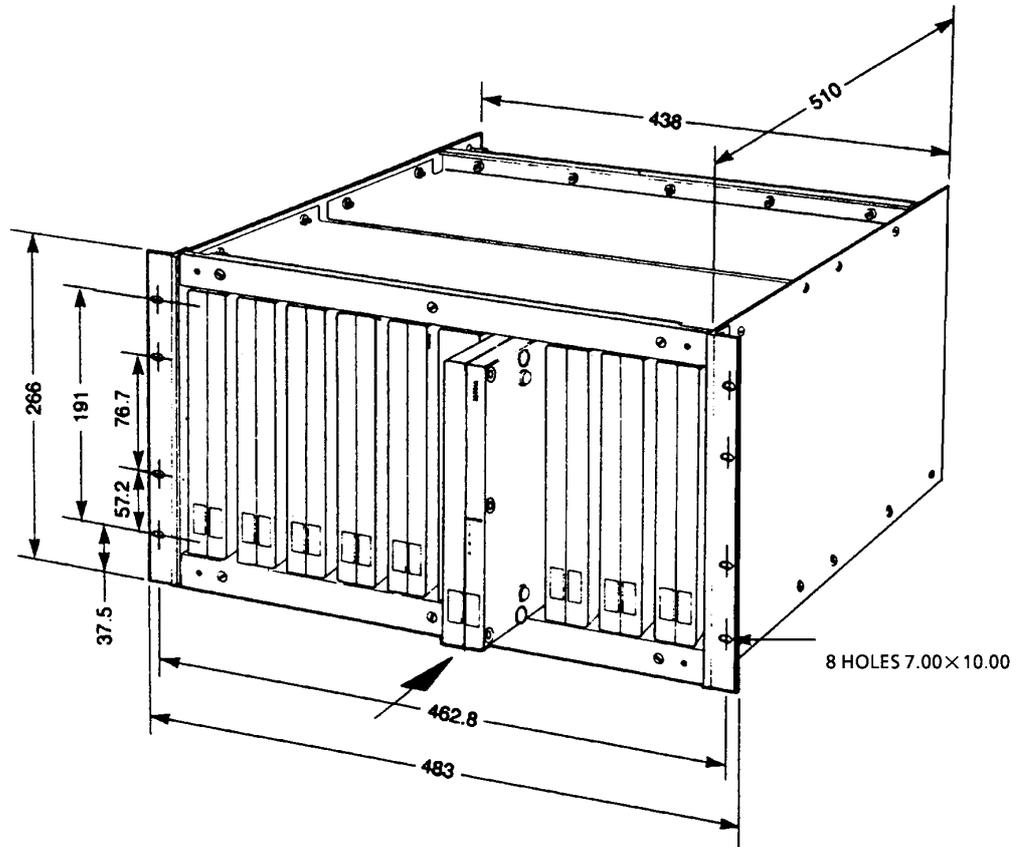

Figure 3.7 Inserting an IMP into the assembled mounting frame.
Figure 3.7 Inserting an IMP into the assembled mounting frame.....	3-9
A rack mounting kit is available as an accessory, part number 359591A. Each kit allows 10 IMPs to be housed in a standard 19" rack. The overall dimensions of the assembled kit are: 483mm×510mm×266mm (19"×20"×10.5"). (See Figure 3.7.)
- 6** Slide all of the IMPs into the mounting frame (Figure 3.7). Then raise the lower clamping bar and lower the upper clamping bar, so that the connector block screws rest inside the open slots. Fix the clamping bars by tightening the M4 screws.